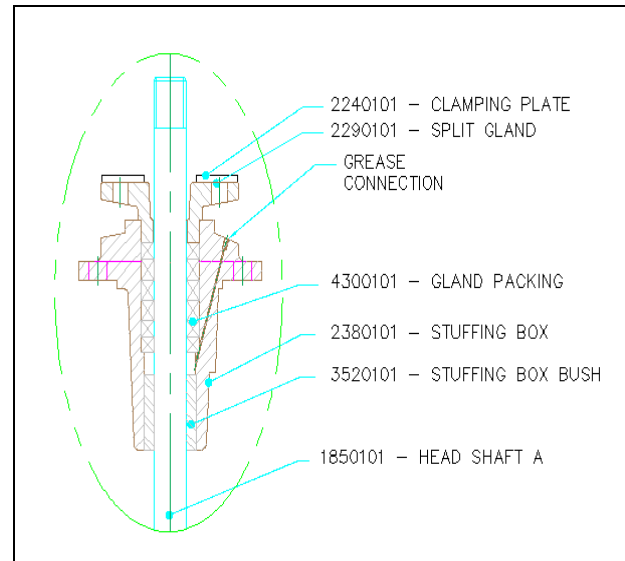

Fig 5
2. If the stuffing box / seal housing is assembled to the discharge head, remove it and all attached piping. **See Figure 5** for the stuffing box provided for the KBL Pump being assembled.
Assemble stuffing box in accordance with **Figure 5**,